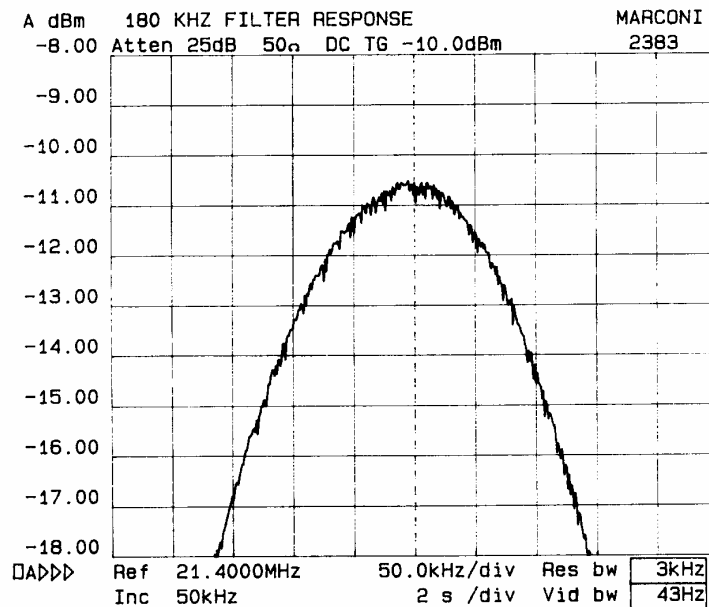
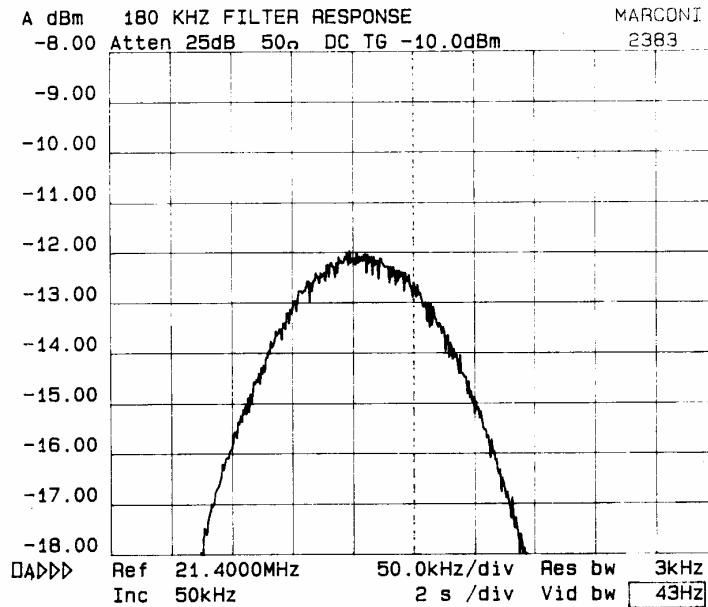

Fig. 5-2-18 Response of 20 dB IF 180 kHz band-pass amplifier (lid secured)
Fig. 5-2-19 Response of 20 dB IF 180 kHz band-pass amplifier (lid removed)
- (5) Connect the signal generator output to the RF IN/OUT BNC socket.
- (6) Set the signal generator to 71.4 MHz and -20 dBm.
- (7) Select the CALIBRATION MODE display by pressing in turn the HELP, TX MON ON-OFF, AC DC, VERT  $\blacklozenge$ , FREQ  $\downarrow$  and REP SWEEP keys.
- (8) On the display, check that RANGE 2 is indicated. Press the HOLD RANGE key. 2 then appears in reverse video.
- (9) Disconnect the signal generator.
- (10) Connect the tracking generator output through the 50 dB attenuator to the RF IN/OUT BNC socket.
- (11) Set the spectrum analyzer to 21.4 MHz, span to 50 kHz/division, reference level to -8 dBm, span to 1 dB/division, resolution bandwidth to 3 kHz, video bandwidth to 43 Hz and tracking generator on.
- (12) Check that the response is as shown in Fig. 5-2-18 and that the 3 dB points give a bandwidth of  $180 \pm 40$  kHz.
- (13) Reset the spectrum analyzer to 200 kHz/division and 10 dB/division.
- (14) Check that the rejection at 1 MHz offset is  $>38$  dB.
When adjusting the response, the receiver tray lid has to be removed. This affects the response by shifting the centre frequency downwards by approximately 50 kHz. The ideal response is as shown in Fig. 5-2-18. With the lid removed, the response is as shown in Fig. 5-2-19.
40. To adjust the response, proceed as in para. 39 and use C15, C18, C27 and C31 as necessary tune the filters as shown in Fig. 5-2-19. The 3 dB points should give a bandwidth of  $180 \pm 40$  kHz. After adjusting the response, replace the receiver tray lid and check that the response is now as shown in Fig. 5-2-18.